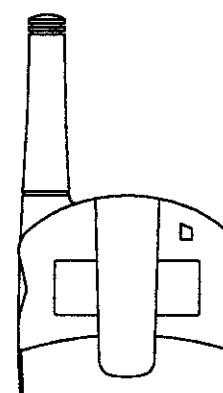

Figure 1.
2. While pulling the BELT CLIP LATCH, push up on the BELT CLIP to remove it from the unit. See Figure 1.